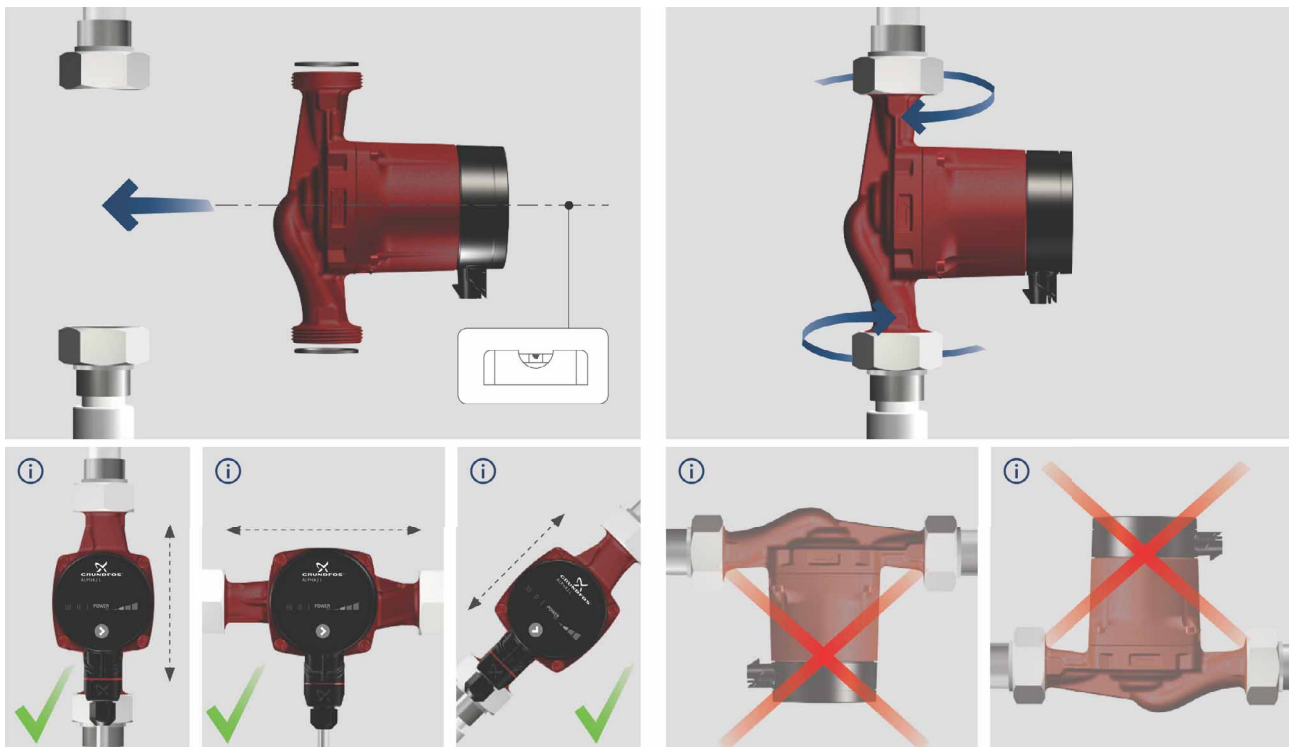

Fig. 4 Mounting the GRUNDFOS ALPHA2 L
- Install the pump with horizontal motor shaft. See fig. 4.